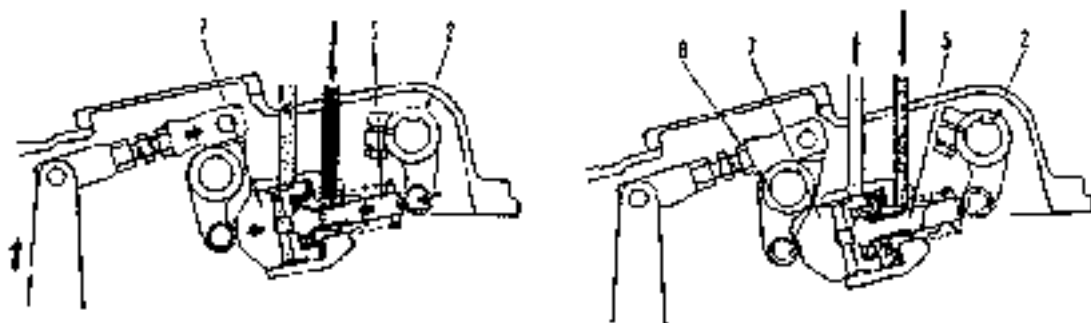

Fig. 2-79
When brake pedal is depressed and brake applied: While the brake pedal is depressed, lever (1) pushes spool (7) in the direction of the arrow (←) and the passage between port C and D is open. So the oil from the pump goes from port B through orifice "a" to port C and D. The oil pushes piston (6) to move in the direction of the arrow (←) and open the passage between port D and port A with increasing oil pressure. The oil then drains from port A to the steering case. The brake pedal is depressed further to compensate the oil loss when the oil passes the opened passage. Finally, the spool (7) makes port A smaller. The above operation runs continuously in a short time, then the piston end pushes the lever (5) down, the brake band contracts smoothly and the braking is applied. When the brake pedal reaches the end of its travel, the passage between port D and A will be shut off. The main regulator valve functions and the oil flows into the torque converter circuit. At this time, the normal oil pressure valve in the circuit is 2.15MPa, as shown in Fig. 2-79.